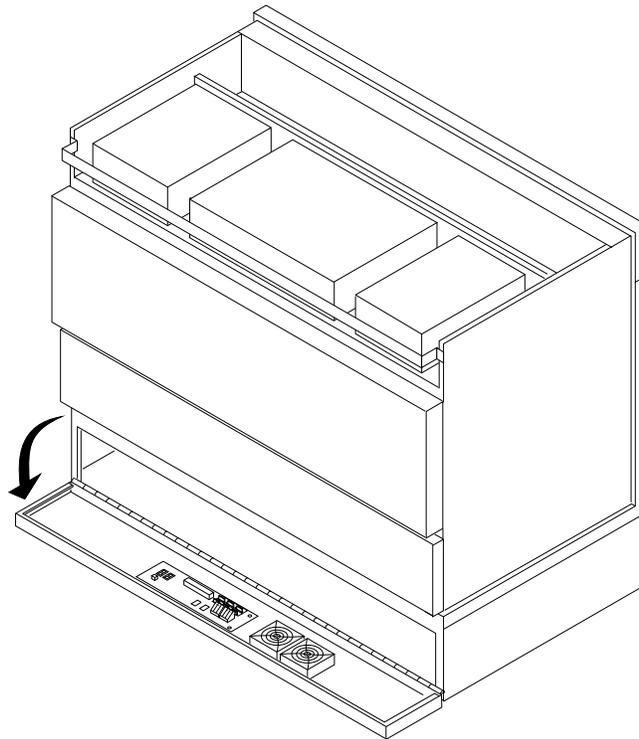

Figure 4-5. MAP/100C Rear Peripheral Door
4. Go the rear of the unit, and find the rear peripheral bay door. Open the door by using a flat head screwdrivers to release the fasteners. See Figure 4-5.
7. From the front of the unit, at the peripheral bay, locate the two screws centered on each side of the shelves. See Figure 4-5. Remove these screws for the ESDI disk and cartridge tape drives.